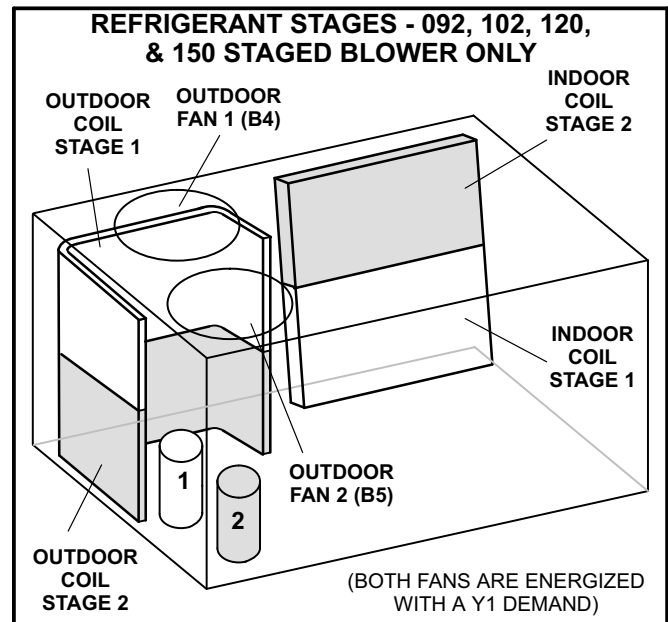

FIGURE 9
- 3- Units contain two refrigerant circuits or stages. See figure 9 or 10.